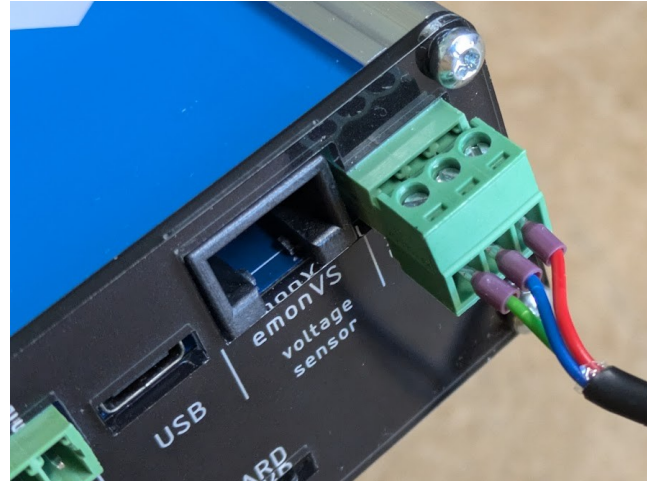

Figure 2: DHW Status sensor: emonPi2 ADC Input
- Plug the 3-pin green terminal block connector into the **ADC input on the emonPi**, see Fig2 >